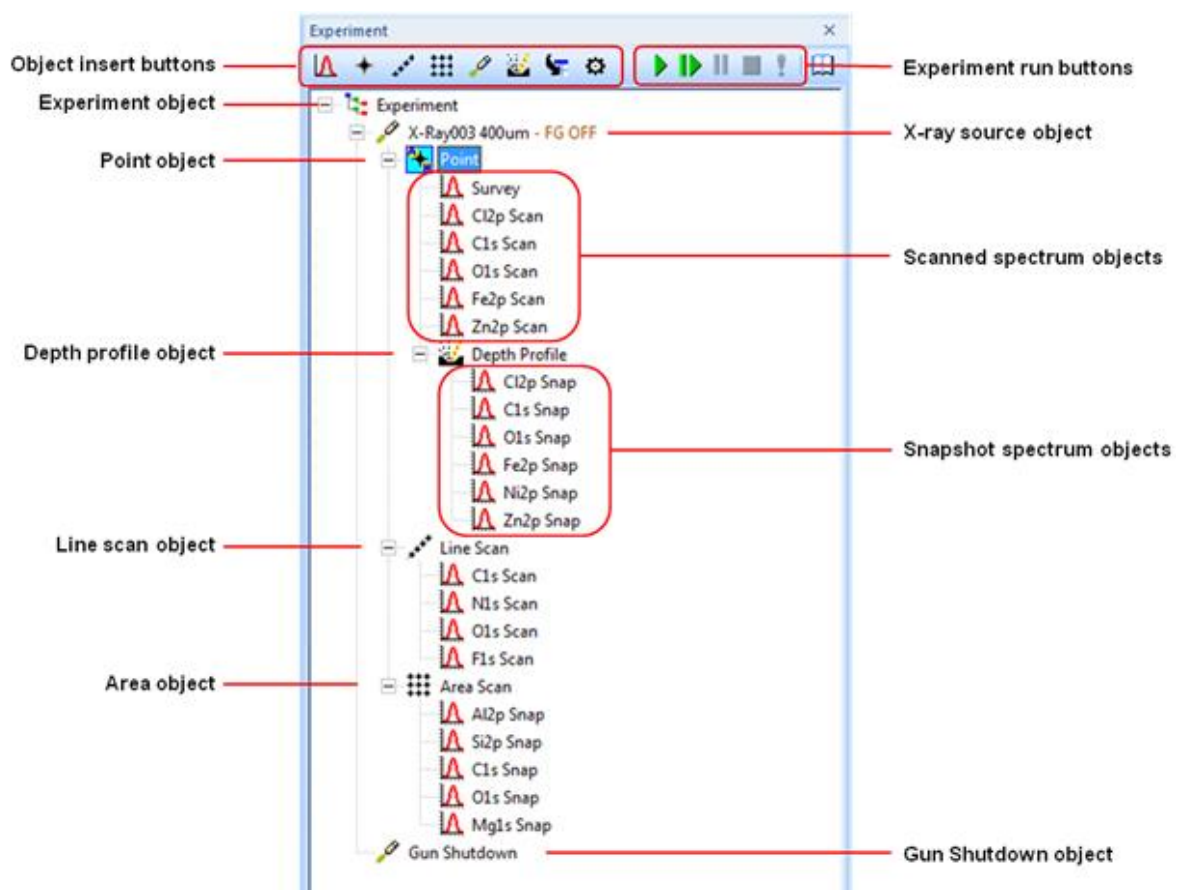

Figure 23: Experiment Panel
- It is also possible to automatically save an optical image at any defined **Point** during an **Experiment**. Check the **Save Video Image** in the **Point** property page (see **Figure 23**).